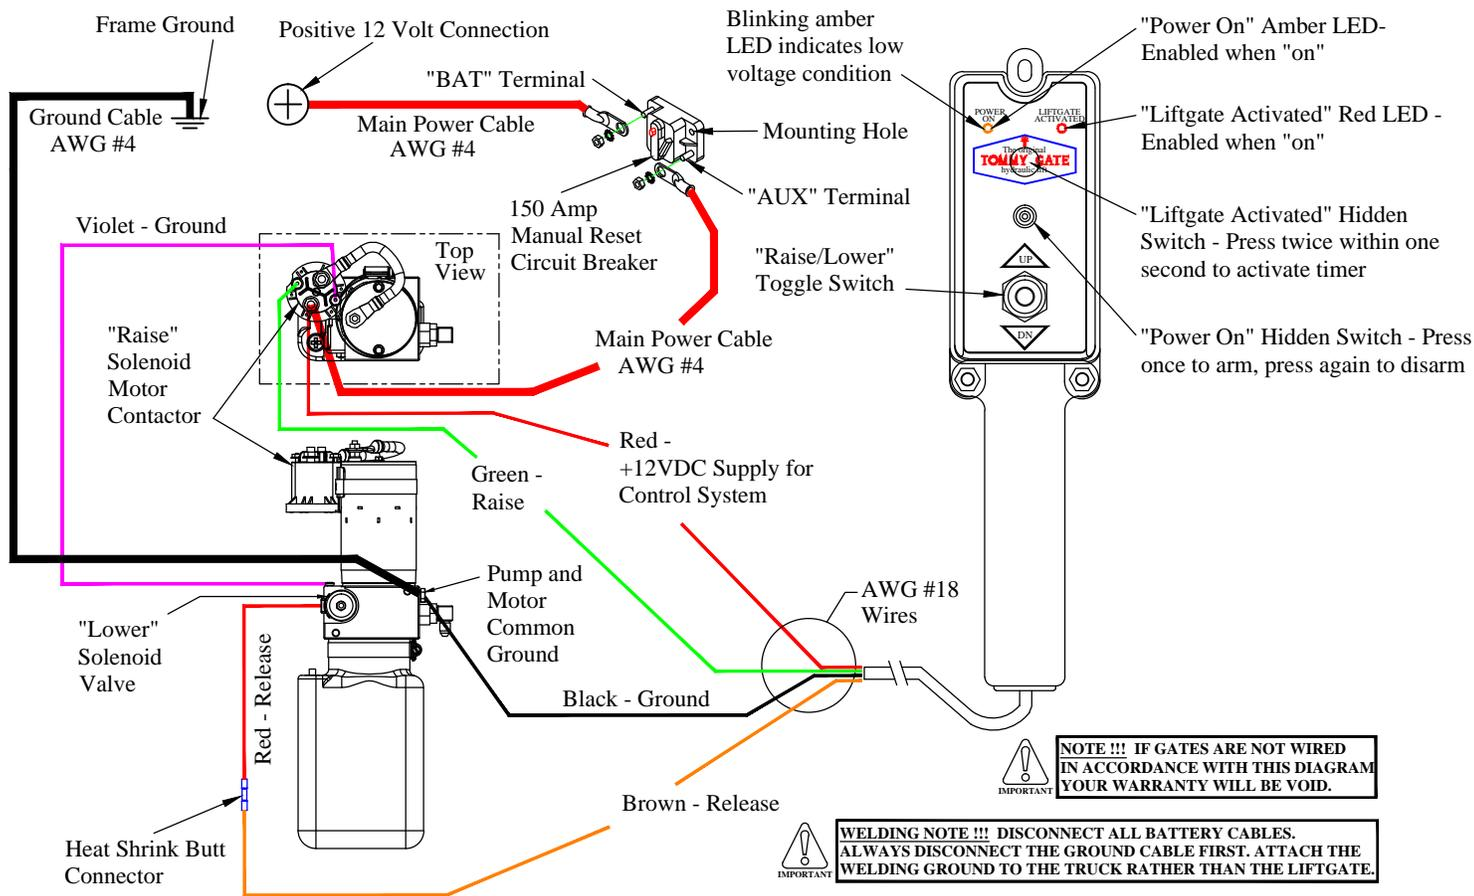

Figure 21: Wiring Diagram.
Note: Follow the *Tommy Gate Recommended Electrical Wiring Guidelines* and wiring diagram (Figure 21) in the following steps.
13. Connect the circuit breaker (Figure 21). Use the supplied heat shrink tubing.
21. **Connect** the positive(+) lead to the CCP bus bar. Use the supplied 5/16" bolt, lock nut, and two (2) pieces of heat shrink tubing to cover the cable connection to the bus bar.
23. **Push** the hidden "Power On" switch (Figure 21). The amber "Power On" LED will illuminate.